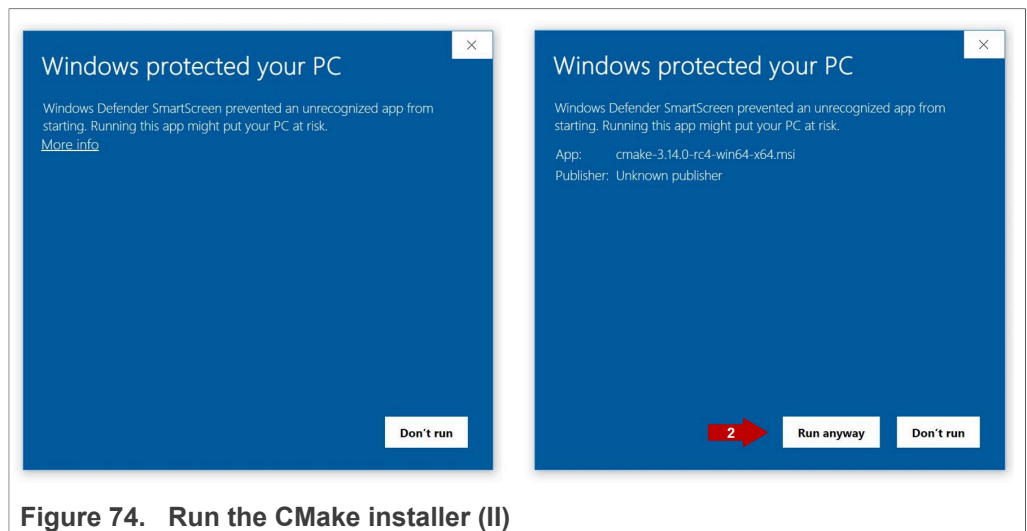

Figure 74. Run the CMake installer (II)
- If this is your case: Click (1) on **More info** and then (2) click on **Run anyway** as shown in Figure 74: